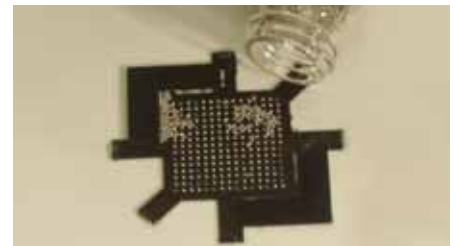

Figure 2
5. Carefully pour solder spheres onto the underside of BGA; soft bristle ESD safe brush can be used to sweep the spheres into the apertures of the stencil fixture. (Figure 2.)